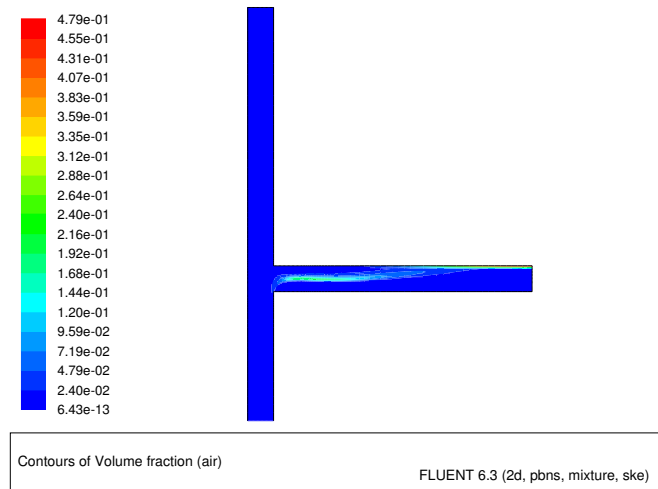

Figure 19.5: Contours of Air Volume Fraction
3. Display the volume fraction of air (Figure 19.5).
*When gravity acts downwards, it induces stratification in the side arm of the tee junction. In Figure 19.5, you can see that the gas (air) tends to concentrate on the upper part of the side arm. In this case, gravity acts against inertia that tends to concentrate gas on the low pressure side, thereby creating gas pockets. In the vertical arm, the gas travels upward faster than the water due to the effect of gravity, and therefore there is less separation. The outflow split modifies the relation between inertia forces and gravity to a large extent, and has an important role in flow distribution and on the gas concentration.*